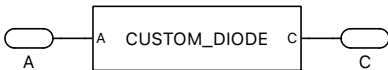

Figure 13: Schematic of the SPICE diode configuration
At this stage, the schematic of the SPICE configuration should match the one in Fig. 13.
- 10** *Optional*: Rename the subsystem **Electrical ports** *A* and *C* according with the schematic in Fig. 13. In case the icon does not align with the connections to the masked subsystem, follow the **Note** in step 13 of Section 2.